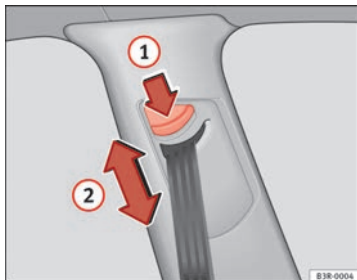

Fig. 17 Belt height adjuster
- Press button ⇒ Fig. 17 ① to adjust the belt height.
- Take hold of the top guide fitting and slide it up or down so that the shoulder part of the seat belt is positioned roughly midway over the shoulder, although **it must never rest against the neck** ⇒ Fig. 17 ② ⇒ ⚠ in Seat belt position on page 25.